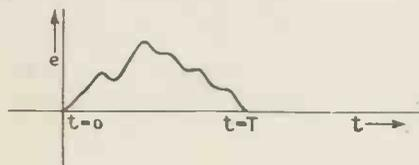

Fig. 9. — Arbitrary wave as generated in television signals.
Similarly, any arbitrarily shaped pulse as shown in Fig. 9 can be represented by
Clearly,  $f(t)$  in (6) is of the form given in (1), i.e., it consists of a series of sine terms whose amplitudes may be of any value and whose frequencies are once, twice, three times, etc., the scan-line frequency. Although we have stated that the amplitudes may be of any value, invariably in representing any signal of the form shown in Fig. 9 we find that the amplitudes of the various components show a tendency to decrease as their frequency increases.
Now the series corresponding to the above wave contained only cosine terms of odd harmonics. If instead of a square wave we are interested in the transmission of a single pulse of an entirely arbitrarily-shaped wave as, for example, that of Fig. 9, we can, by pursuing an exactly similar argument, draw a curve representing the frequencies involved. Fig. 14 shows such a curve where negative amplitudes are regarded as positive since their sign is immaterial. The maximum amplitudes of the components round  $f_0, 2f_0, 3f_0, \dots$  may be of any value, according to the exact shape of the curve of Fig. 9, but in general, the amplitude of a component at  $nf_0$  will diminish as  $n$  increases. Similarly, the exact shape of each hump will alter as the exact wave shape alters, but the general shape of the complete curve will be as shown.  $f_0$  will, of course,
correspond to  $\frac{1}{T}$  in Fig. 9.
Clearly, the type of curve shown in Fig. 9 is the type of curve in which we are interested in television. The
distribution of light and shade, and consequently the current variation per scan line might very well be of the form of Fig. 9. From the very nature of the problem we cannot specify the exact shape of the curve expressing this variation, for it will alter from scan line to scan line. All we do know is that  $T$  corresponds to the time taken for one scan line.
We have to consider then, firstly, what effect frequency limitation in the amplifier will have on the television signal, and what other conditions have to be met in the design of television amplifiers. For theoretical treatment we cannot deal with the most general type of signal as shown in Fig. 9, and shall therefore consider, as regards the effect of frequency limitations, the unit impulse wave of Fig. 4. It will be seen that no loss of generality attends this method for the unit impulse wave is, virtually, the multiplier which renders possible the existence of the more complicated transients, and the effect of frequency limitation on this latter will be obtained from the effect on the unit wave.